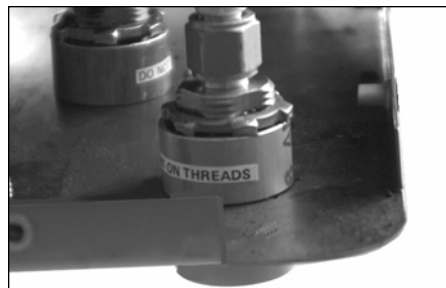

Figure 3
4. Disconnect the Diameter-Index Safety System (DISS) hose connector from the valve (Figure 3).